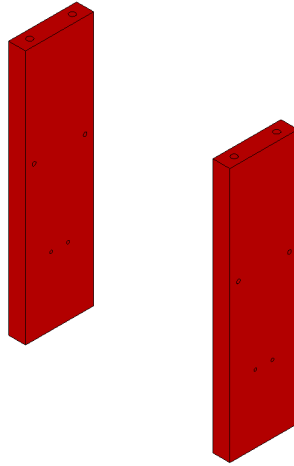

Figure 23: *Side panel* of the VNA holder assembly.
1. Focus on the *side panel* of the VNA holder assembly. Consider both *side panel* elements. You will notice four (4) holes in the top and bottom of each part. These holes are intended for M5 inserts. Using either a heat gun or a soldering iron, heat the inserts and place them into the holes. Allow the inserts to cool down. You will use the *side panels* later in the assembly. The *side panel* components are shown on figure 23.